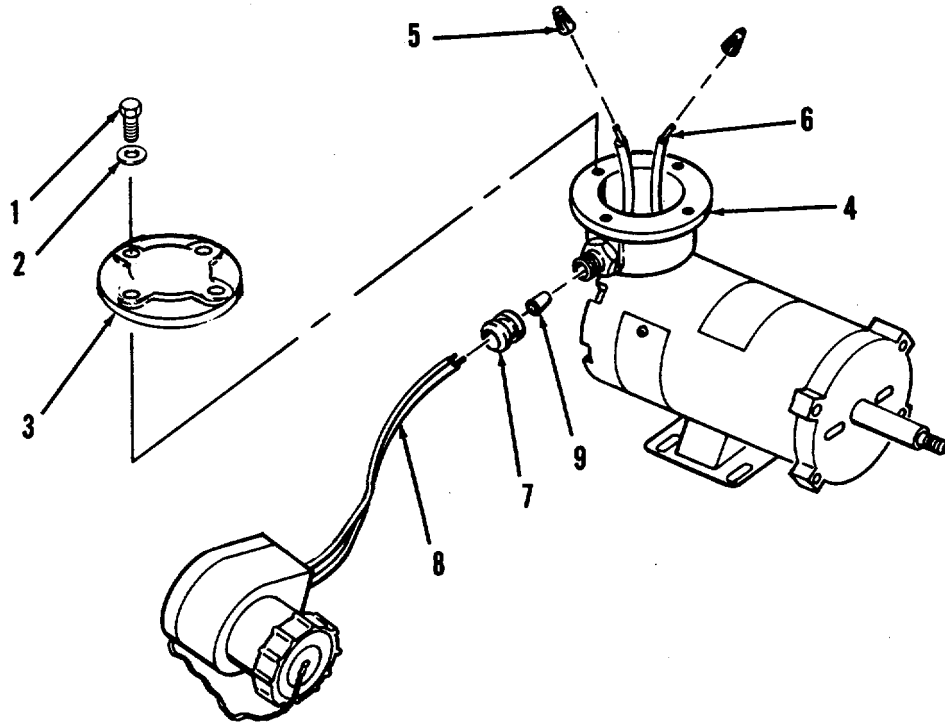
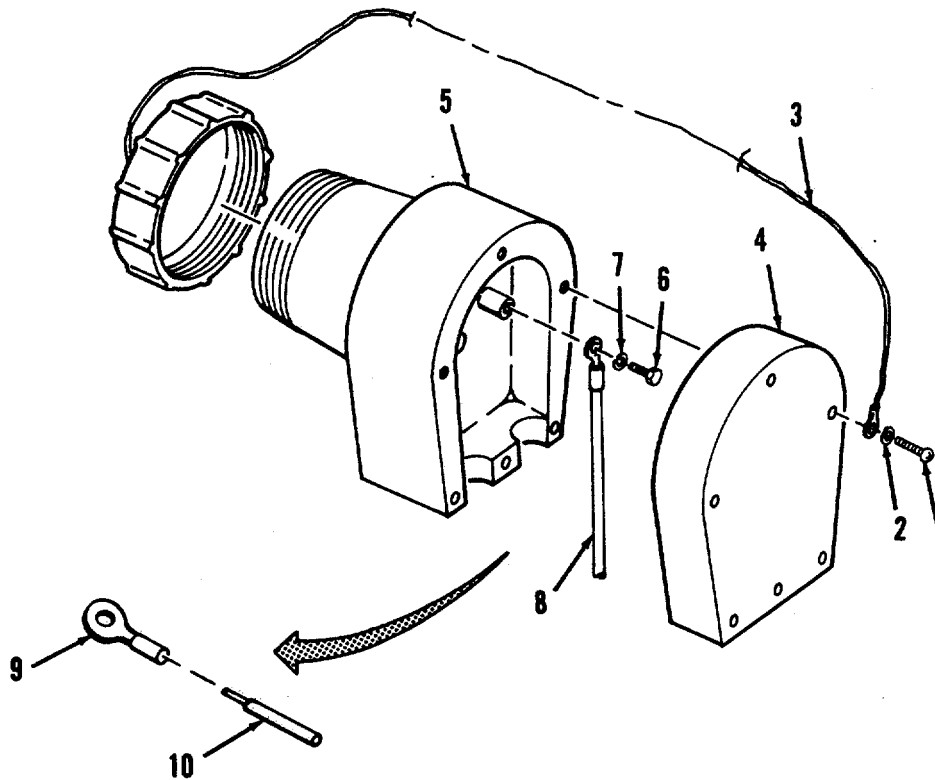

Figure 4-4. Slave Cable Replacement.
Figure 4-5. Slave Cable Repair.
a. **Removal** (Refer to Figure 4-4).
- (1) Remove four bolts (1), four washers (2), and junction box cover (3) from motor junction box (4).
- (2) Remove two wire nuts (5) from motor wires (6).
- (3) Remove strain relief nut (7), disconnect slave cable wires (8) from motor wires (6), and pull slave cable wires through strain relief.
- (4) Remove rubber seal (9) and strain relief nut (7) from slave cable wires (8).
b. **Disassembly**. (Refer to Figure 4-5).
- (1) Remove six screws (1), six flat washers (2), cap retaining cable (3), and cover (4) from receptacle (5).
- (2) Remove two bolts (6), two lock washers (7), and two wire assemblies (8) from receptacle (5).
- (3) Thoroughly remove all RTV sealant from two wire assemblies (8).
**c. Installation.** (Refer to Figure 4-4).
- (1) Place strain relief nut (7) and rubber seal (9) on slave cable wires (8).
- (2) Install slave cable wires (8) into motor junction box (4). Pull about 6" of slave cable wires through strain relief nut (7).
- (3) Snug rubber seal (9) down to strain relief. Tighten strain relief nut (7).